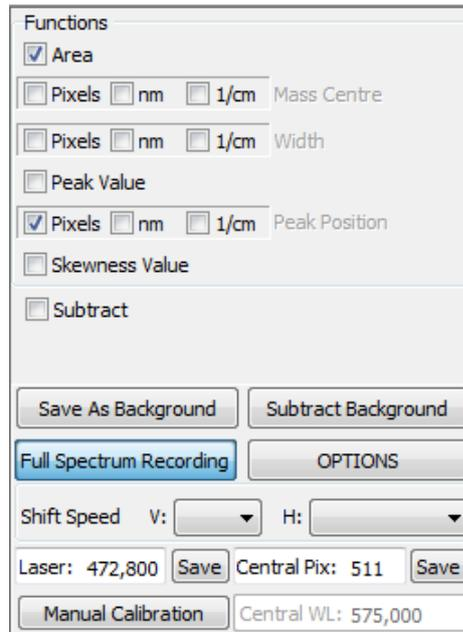

Fig. 10-25. Functions panel
4. For every selected region, define functions to apply for processing spectral data in the course of scanning. To this purpose, select the desired options in the **Functions** panel (Fig. 10-25).